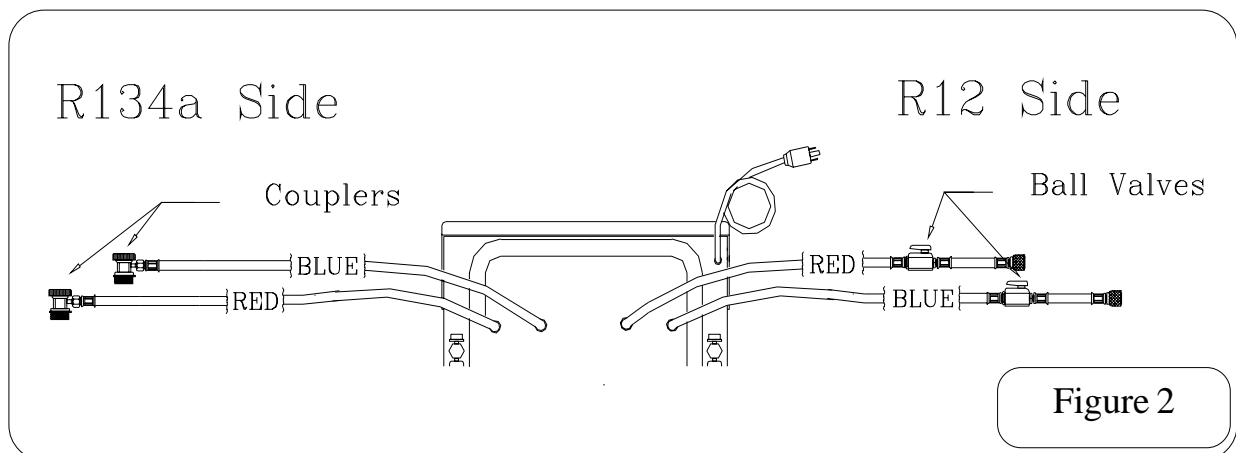

Figure 2
6. Make sure the 96" hoses are connected to the back of the machine. (Refer to Figure 2).